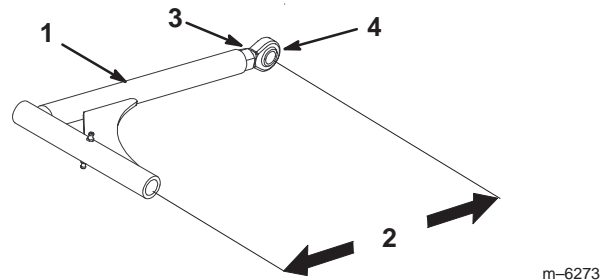

Figure 56
- To adjust the push arms, loosen the jam nut and rotate the ball joint counterclockwise, one turn at a time.(Fig. 56).
- Adjust each side the same amount. Each push arm should have a nominal length of 15-5/16 inch (389 mm) (Fig. 56).